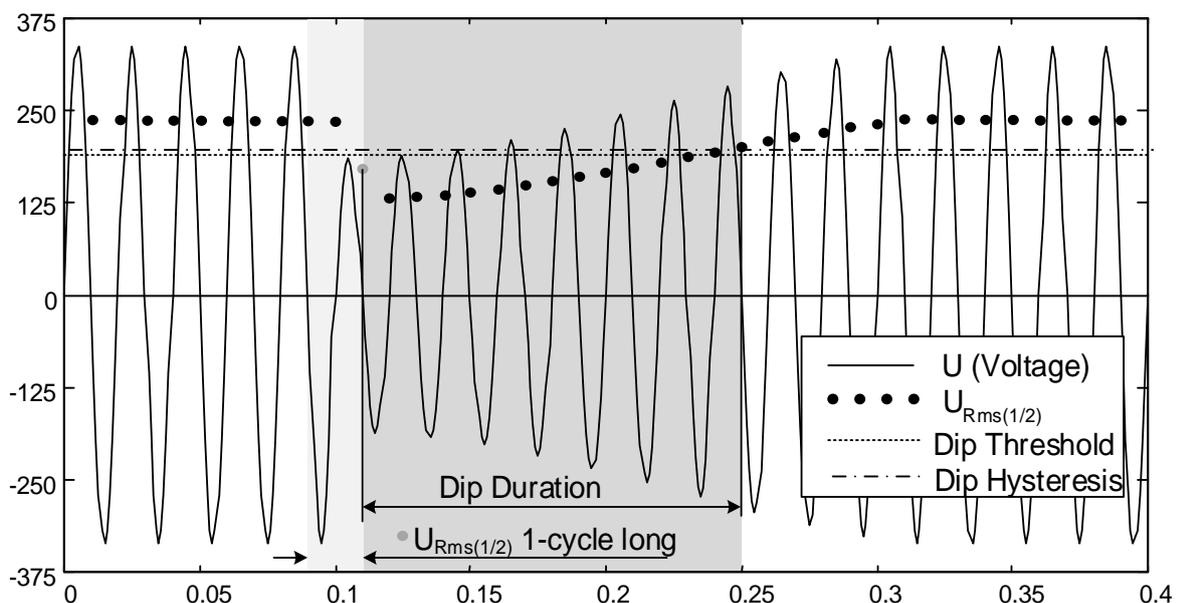
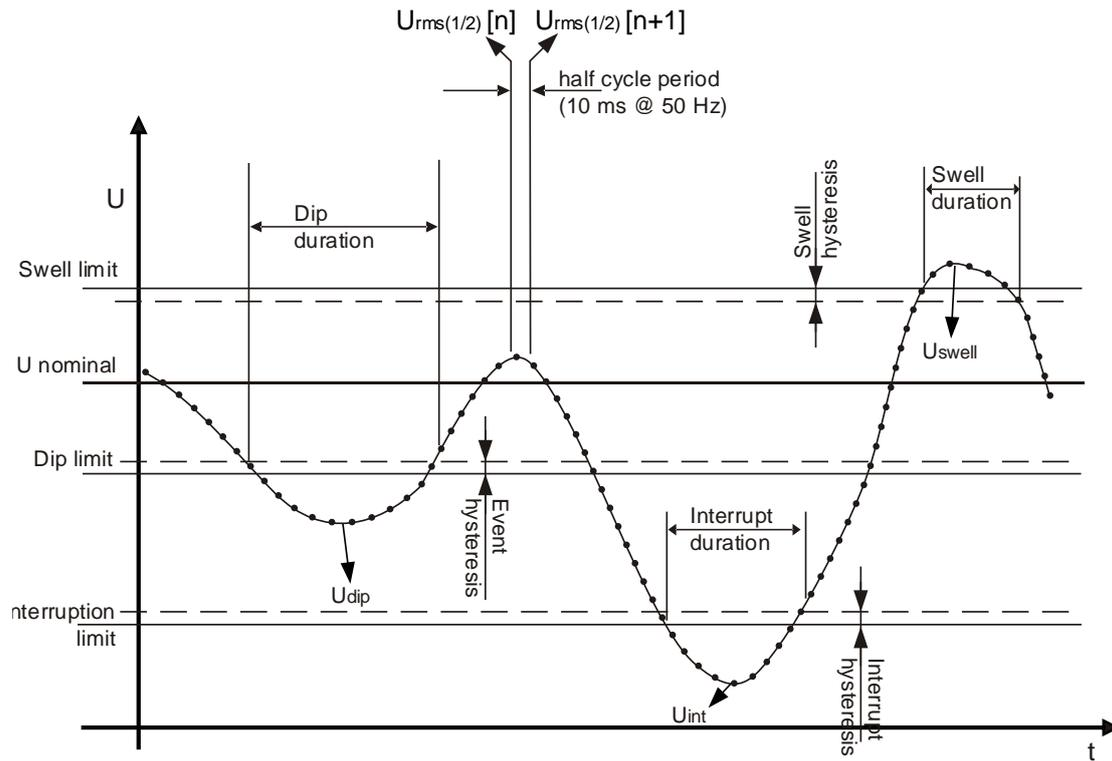

Figure 6.11: $U_{Rms(1/2)}$ 1-cycle measurement
Figure 6.12 Voltage events definition
- On single-phase system (Connection type: 1W), a voltage dip begins when the $U_{Rms(1/2)}$ voltage falls below the dip threshold, and ends when the $U_{Rms(1/2)}$ voltage is equal to or above the dip threshold plus the hysteresis voltage (see Figure 6.12 and Figure 6.11),.
- On single-phase system (Connection type: 1W), a voltage swell begins when the $U_{Rms(1/2)}$ voltage rises above the swell threshold, and ends when the $U_{Rms(1/2)}$ voltage is equal to or below the swell threshold plus the hysteresis voltage (see Figure 6.12 and Figure 6.11),
- On single-phase system (1W), a voltage interruption begins when the $U_{Rms(1/2)}$ voltage falls below the voltage interruption threshold and ends when the $U_{Rms(1/2)}$ value is equal to, or greater than, the voltage interruption threshold plus the hysteresis (see Figure 6.12 and Figure 6.11),